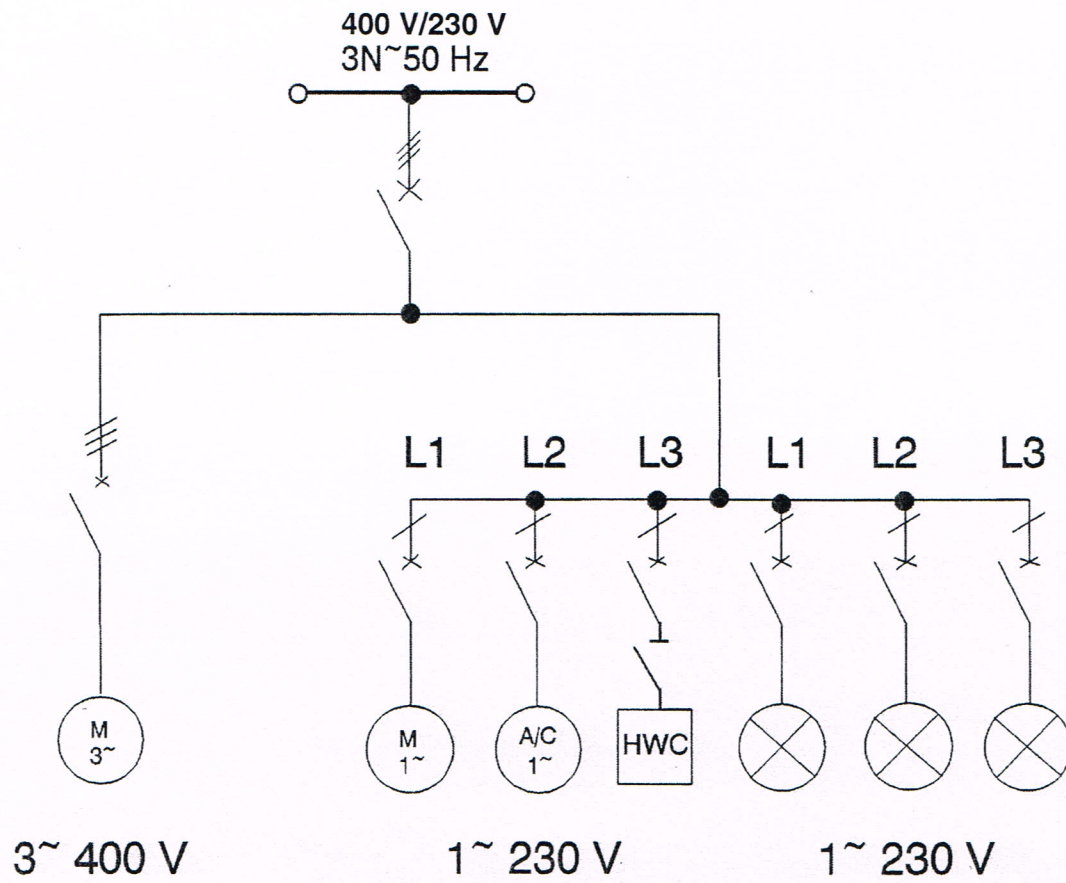

FIGURE 3: THREE-PHASE DISTRIBUTION BOARD (SINGLE-LINE DIAGRAM)
FIGURE 3, DIAGRAM SHEET 3 (attached) is a single-line circuit diagram that represents the layout of a three-phase, four-wire, 400 V/230 V, 50 Hz distribution board (DB) with circuit breakers, isolator switches and electrical devices (loads) connected to it.